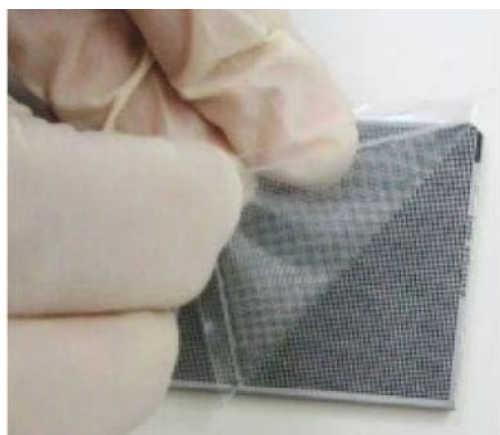

Figure 41. Removing the TE Sealing Film from the chip. Start from one corner and apply even pressure to pull.
3. Carefully peel off the sealing film from the chip (Figure 41, below).